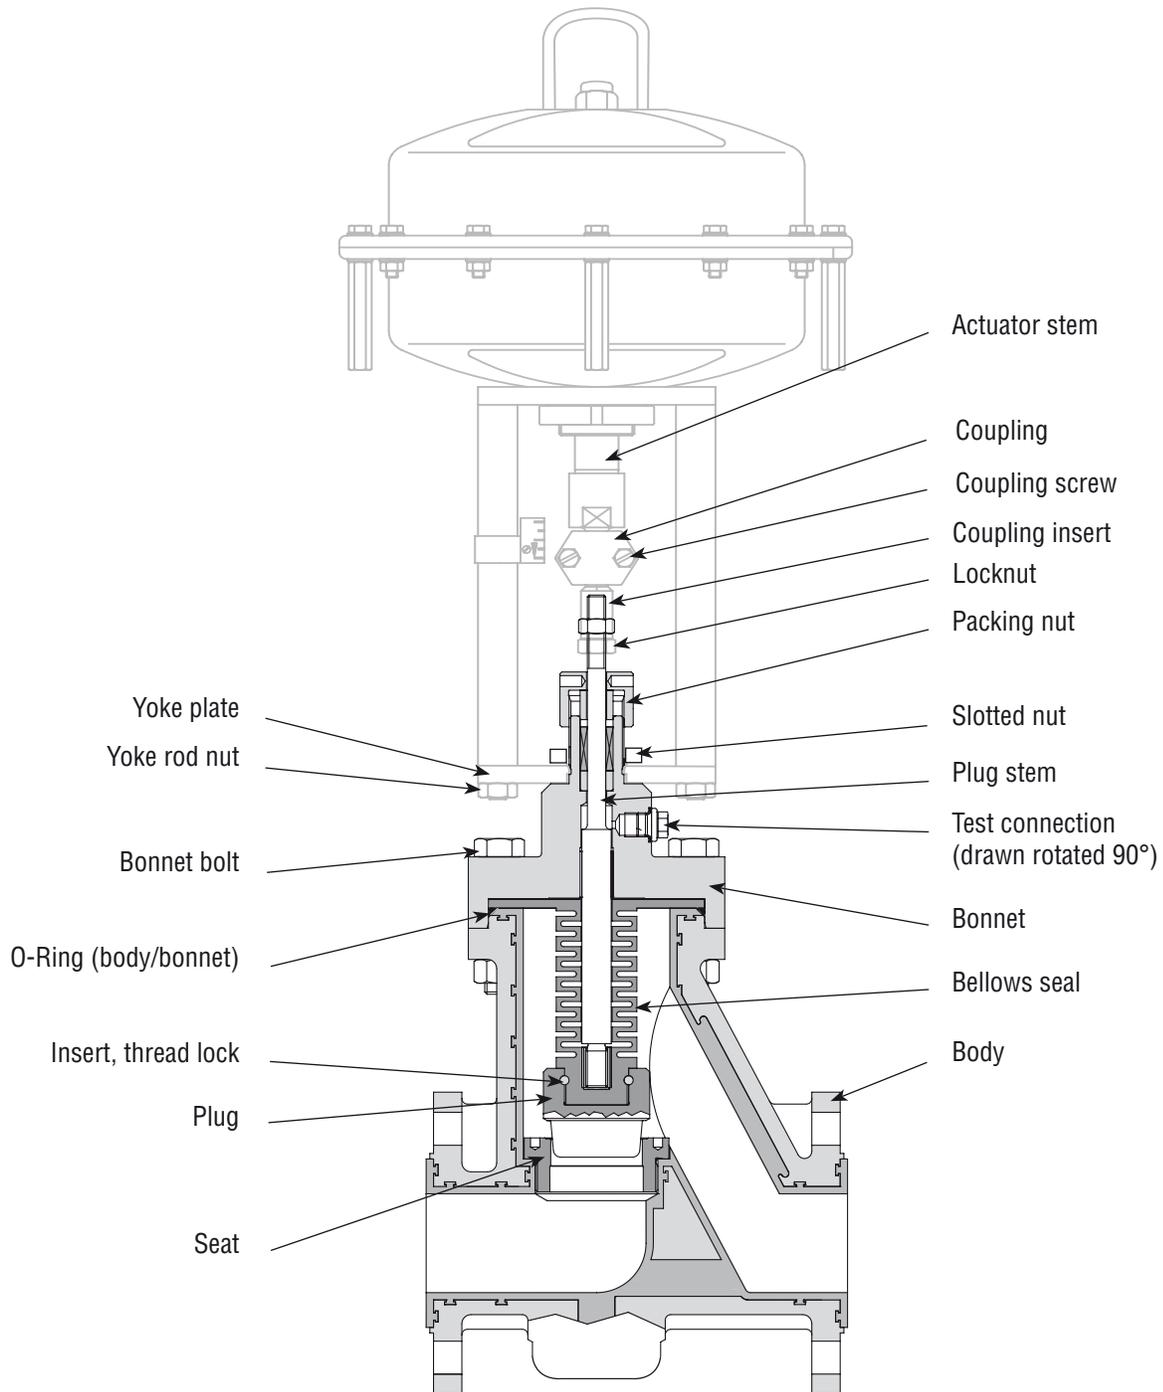

Fig. 1: Typical Valve Series 132000 with Series 2 Actuator
- 17.1 Check gaskets for leakage and retighten bolts if required (see Fig. 1).
(See Fig. 1)
(see Fig. 1)